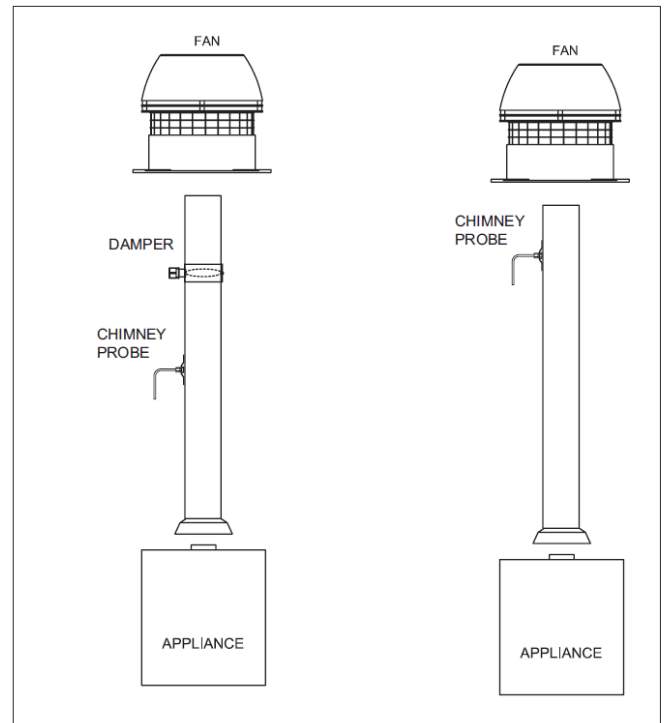

FIGURE 48
6. For fireplace installations, the probe should be installed close to the fan inlet. See **Figure 48**.